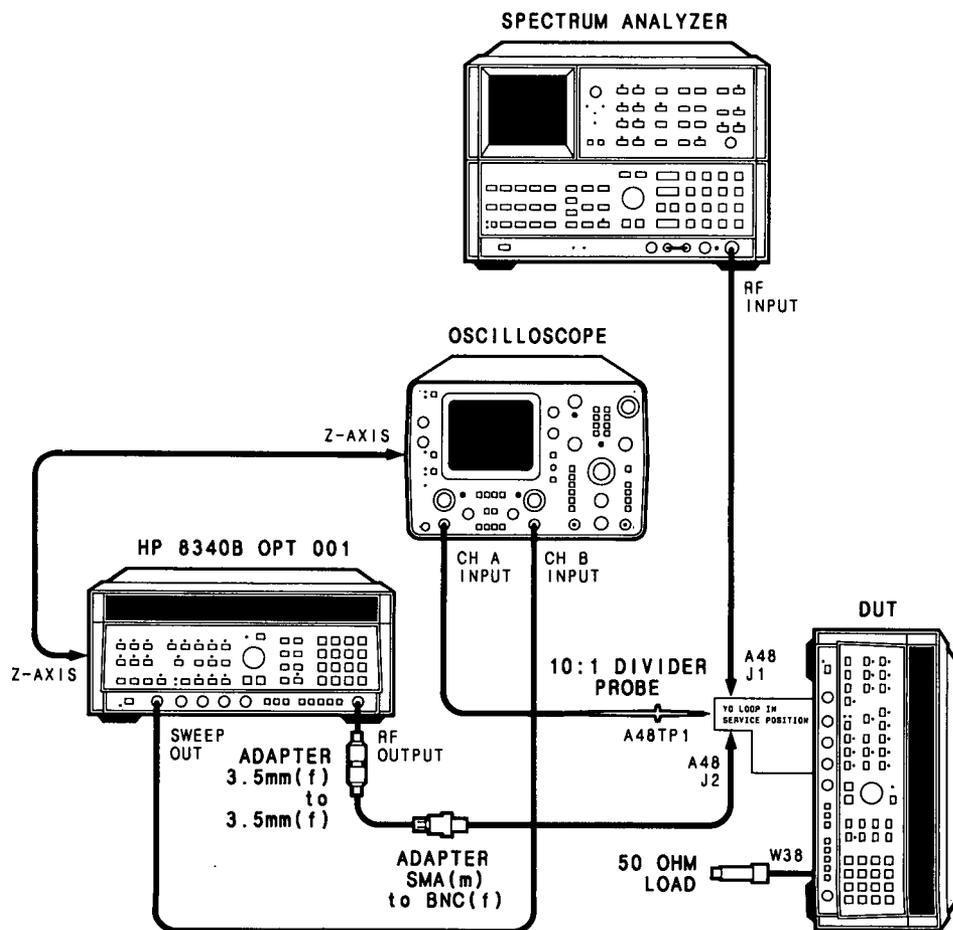

Figure 5-18. YO Loop Adjustment Setup
- Place the DUT in the test position shown in Figure 5-18 and remove the top and bottom covers. Disconnect the rigid cable (W3) going into the A45 directional coupler RF Output through a hole in the mother board (top of the DUT). Put the YO Loop section in the service position. Disconnect all the cables that connect to A48 and A49 PC boards. Remove the A48 YO loop sampler assembly cover. Connect a 50 Ohm load to W38 at the end that connects to A49J2.
- Connect the test equipment as shown in Figure 5-18 (do not connect the spectrum analyzer yet). Set the LINE switch to ON and allow 1/2 hour warmup.